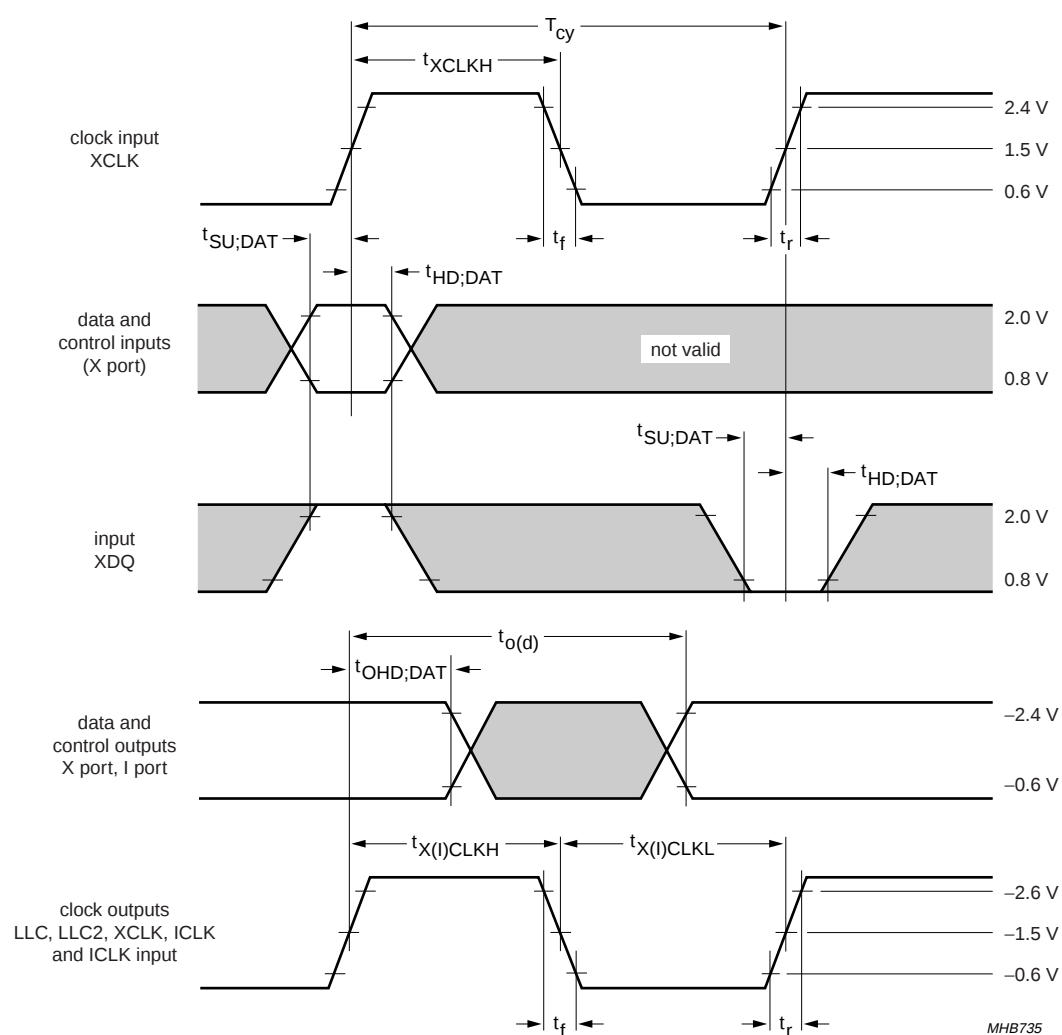

Fig.40 Data input/output timing diagram (X port, RT port and I port).
2. The effects of rise and fall times are included in the calculation of $t_{OHD;DAT}$ and t_{PD} . Timings and levels refer to drawings and conditions illustrated in Fig.40.